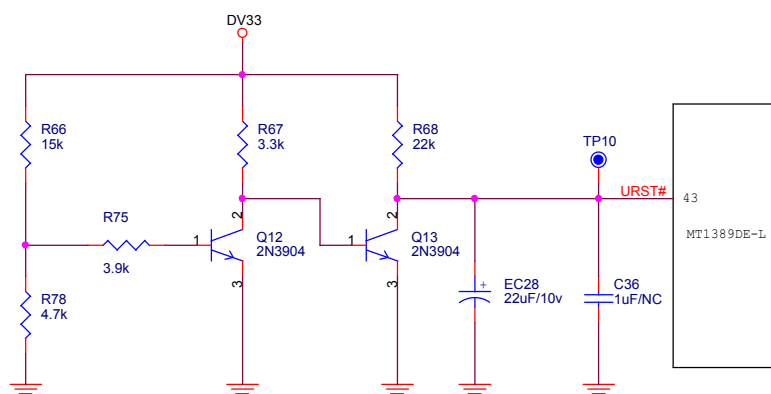

Figure 3.2.11.1 Reset circuit diagram
1. Reset circuit is shown as in the following figure 3.2.11.1: